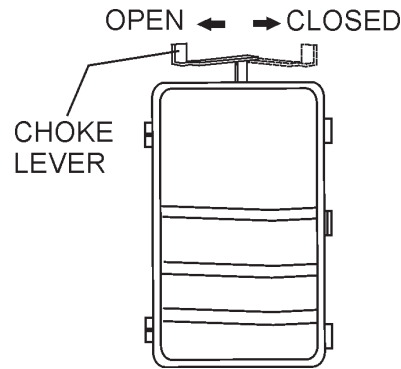

Figure 10. Choke Lever
2. Place the **choke lever** (Figure 10) in the "CLOSED" position if starting a **cold** engine.
3. Place the **choke lever** (Figure 10) in the "OPEN" position if starting a **warm engine** or the **temperature is warm**.